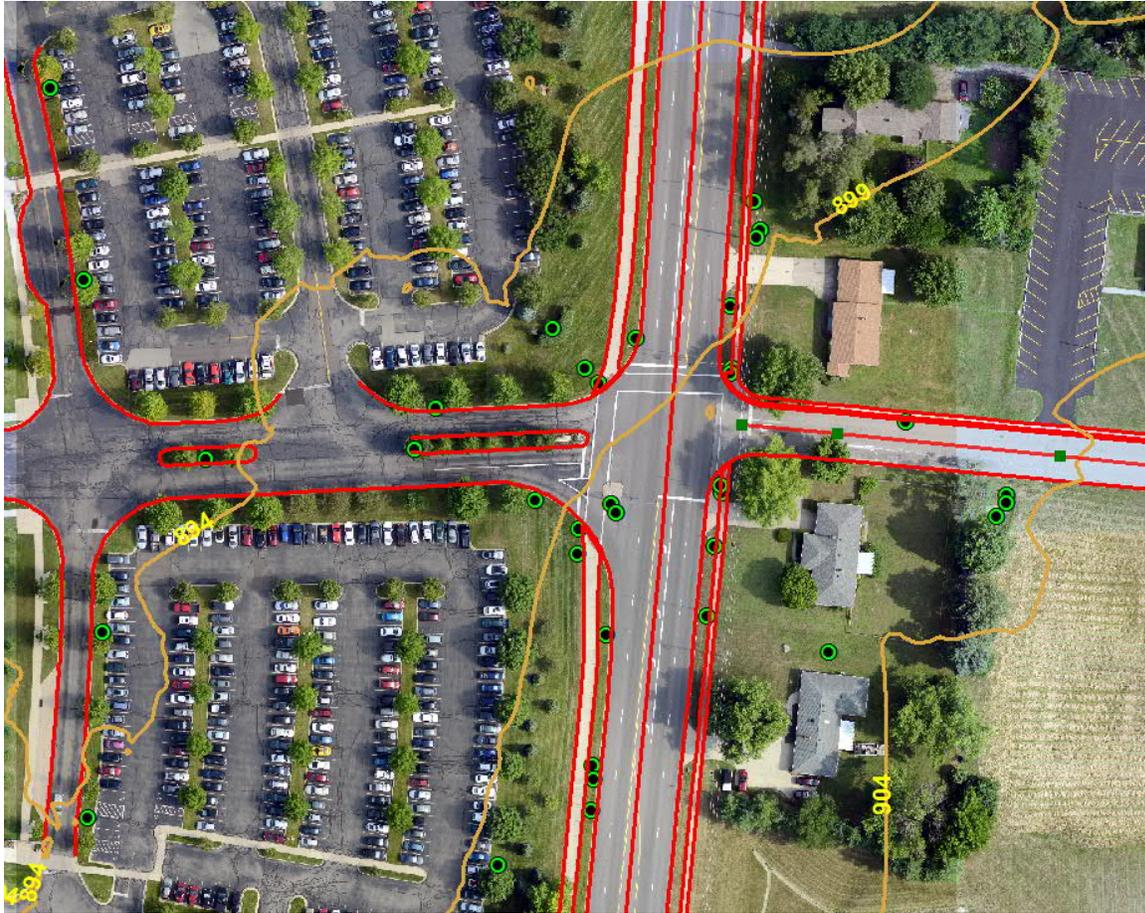

Figure 11 Planimetric Map
- a. Planimetric Map: Create a planimetric map like the one given in Figure 11 by following the following instructions: